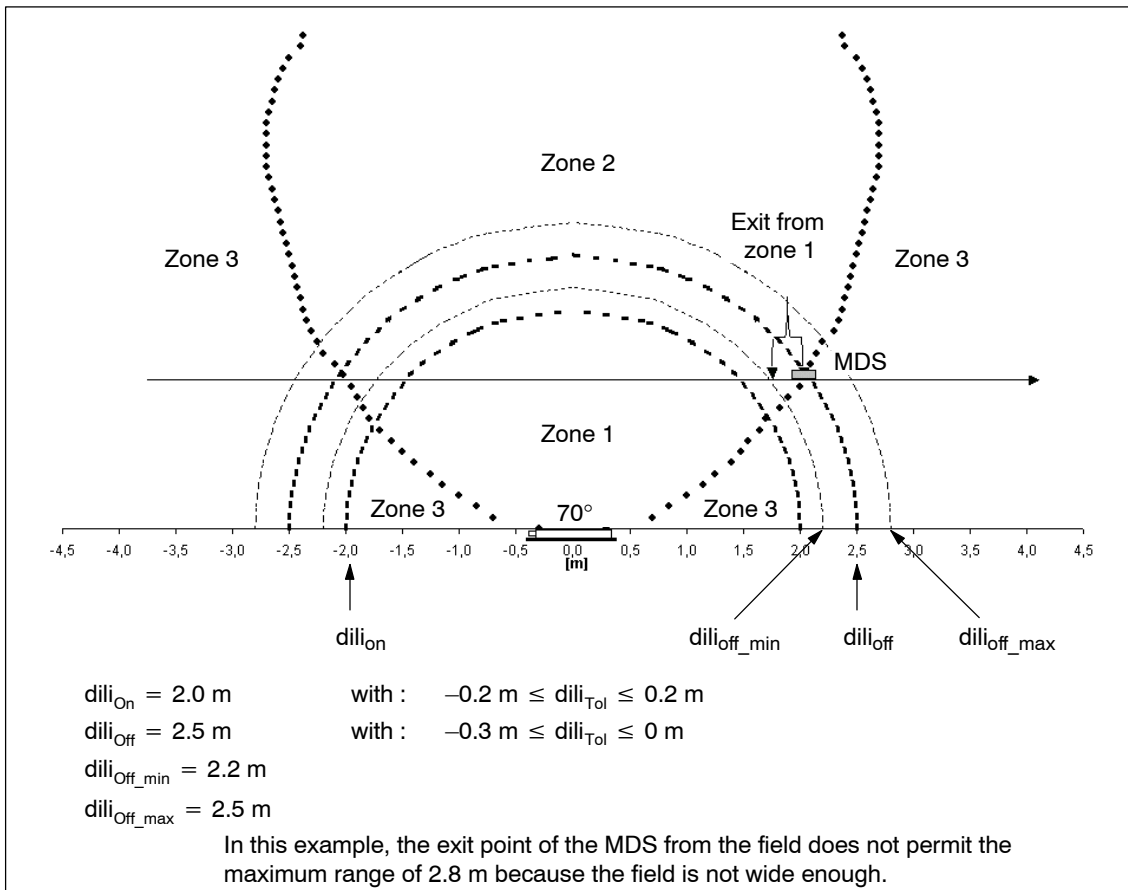

Figure 3-7 Example of case b) when the range limit $dili = 2.0 \text{ m}$
- b) The MDS exits the SLG's field within the tolerance range of the range limit. Communication is terminated before the range limit is reached. This means that when the MDS exits the SLG's field the range limit overlaps the tolerance range of the field (see Figures 3-7 and 3-9).